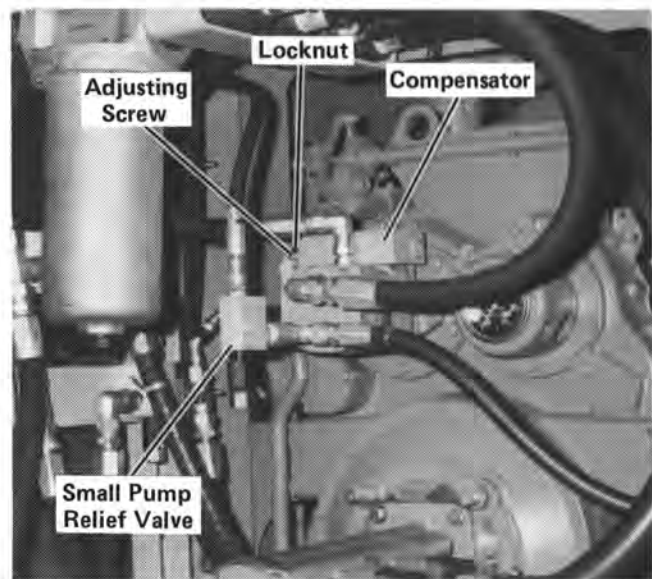

Figure 27
2. Loosen the locknut on the small pump compensator and turn the adjusting screw outward (counterclockwise). See Figure 27.